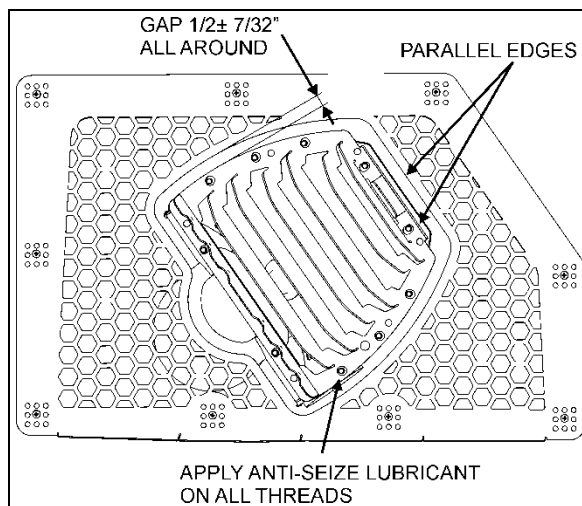

FIGURE 7: DIFFUSER POSITION ADJUSTMENT 04015_1
- For proper angular position, make sure that the two edges shown on figure 7 are parallel with each other.